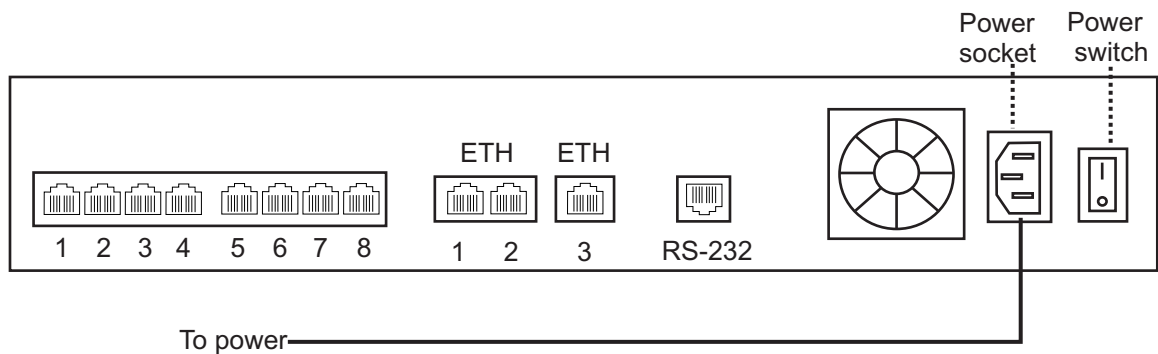

Figure 2.5 AC Power Connection
The TMG800 is furnished with one AC power connector (figure 2.5 on page 12).
1. Connect an AC power cable between the AC connector of the Tmedia unit and an AC supply. See figure 2.5 on page 12.